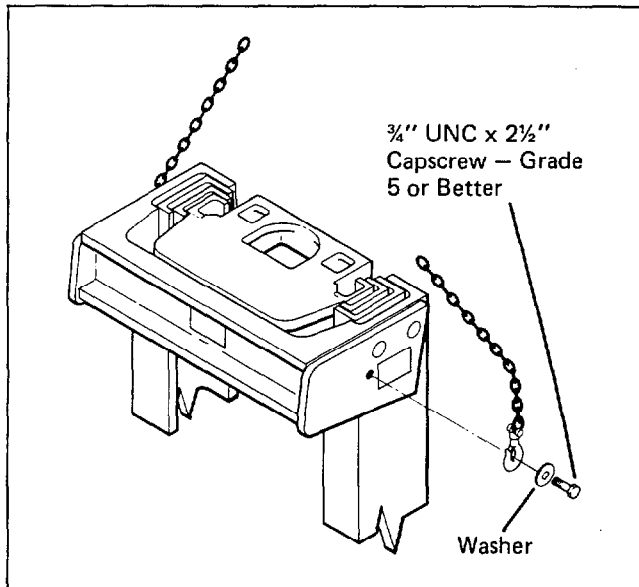

Figure 4-1 Lifting Procedure
1. Secure the mast to an overhead crane using the lifting technique outlined in sub-section 1-12, steps 1 and 2. See figure 4-1.